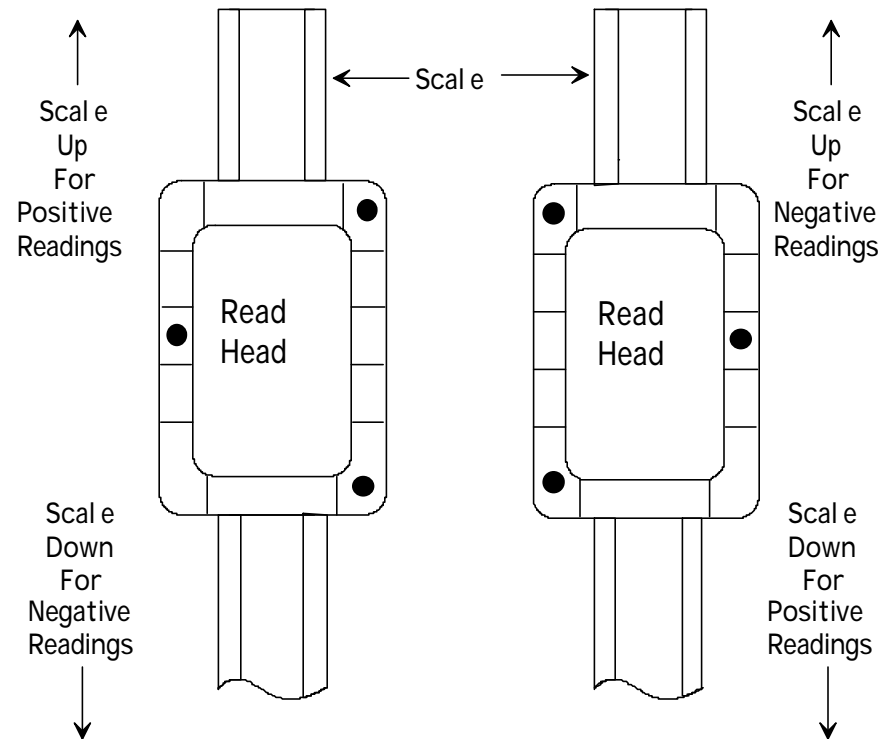

Figure 2-2. Proper Orientation of the Read Head
Note: Be sure to note the orientation of the read head. See Figure 2-2. When the side with two screw holes is on the right, moving the scale up produces positive readings and moving the scale down produces negative readings.
8. Refer to Figure 2-2 to determine which orientation to use when installing the read head for your application. Then slide the read head onto the scale. Continue sliding the read head until it meets and engages with the guide clip. Check that the guide clip exerts sufficient pressure on the read head, as described at the beginning of this section.